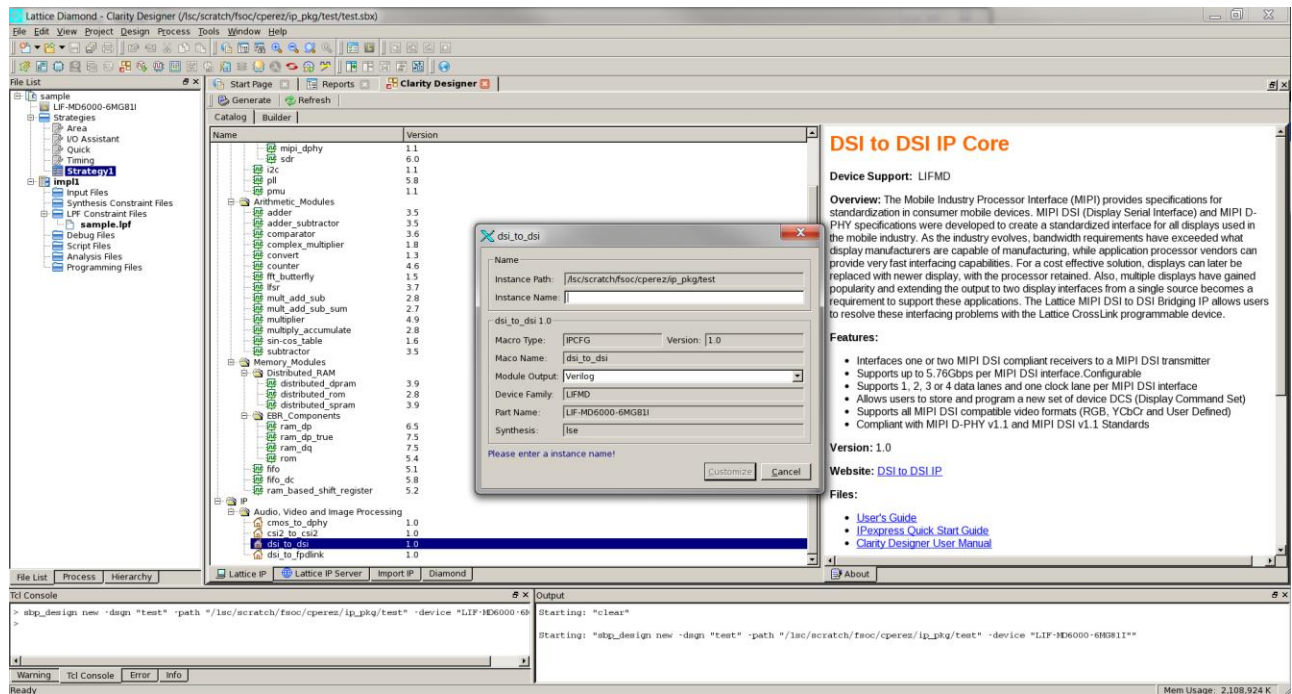

Figure 4.3. Configuring DSI to DSI Bridge IP in Clarity Designer
1. Double-click **dsi to dsi** in the IP list of the Catalog view. The **dsi to dsi** dialog box is displayed as shown in Figure 4.3.